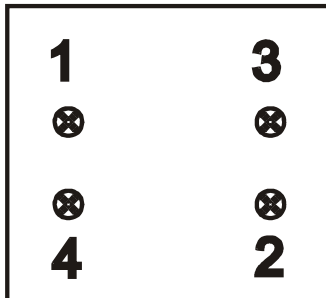

Figure 42. Magnetron Fastener Tightening Sequence
6. Refer to Figure 42. Hand tighten the magnetron fasteners in sequence as shown, until snug. Then, tighten the fasteners $\frac{1}{4}$ turn in sequence. Finally, tighten the fasteners in sequence to 3.4 N-m (30 inch-lbs) using a torque-limiting screwdriver.